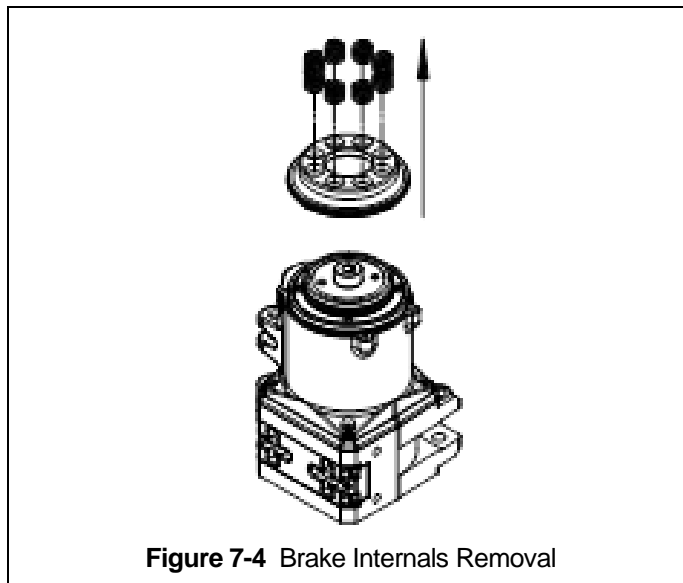

**Figure 7-2** Brake Cover Bolt Removal
- 2) Gradually and evenly back out 4 Hex Socket Cap Screws from Brake Cover as shown in Figure 7-2.